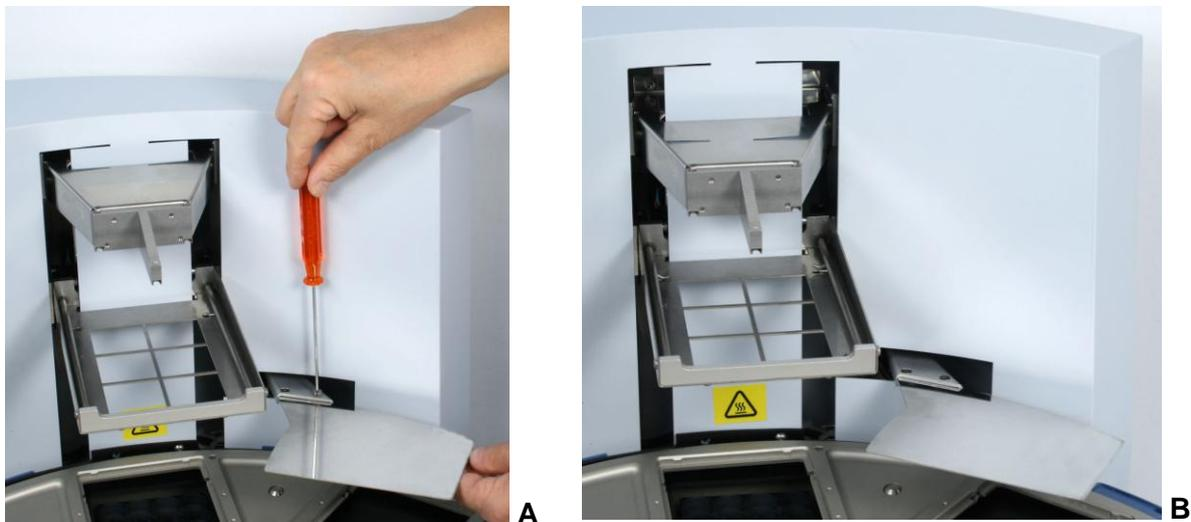

Figure 10. Fastening / loosening the shield plate (A) and when in place (B)
4. When fastening the two plate retaining screws (Figure 10 A), be careful not to drop them inside the instrument. Figure 10 B shows the shield plate installed.